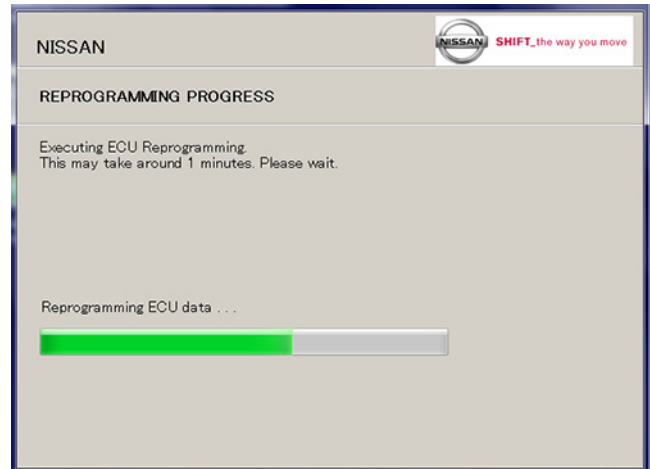

Figure 8
- **REPROGRAMMING PROGRESS** screen will be displayed (Figure 8).